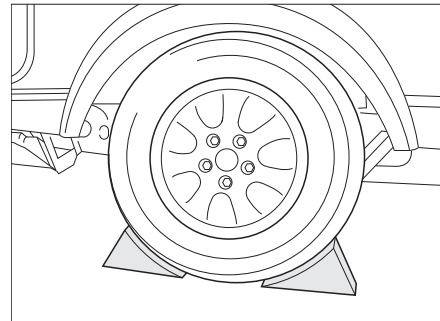

Fig. 187 Securing vehicle
- Place chocks or other appropriate objects beneath the opposite wheel of the vehicle to secure it (Bild 187).